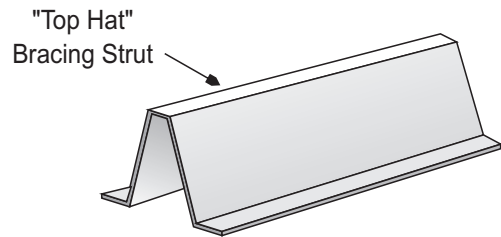

Fig. 39
- 2 Usually, reinforcing struts, known as Top-Hat Bracing Struts, (Fig 39), are required to strengthen the door sections, **and**